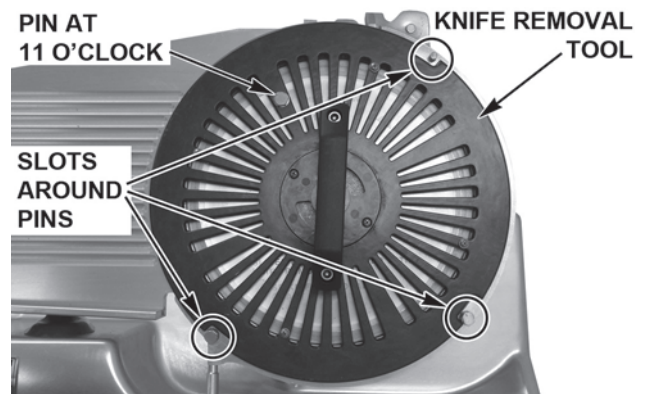

Fig. 21
- Place the Knife and Tool so the Pin on the Knife Removal Tool is at the 11 o'clock position (Fig. 21).
- Place the Slots on the Knife Removal Tool fit around the three Pins on the Ring Guard (Fig. 21).